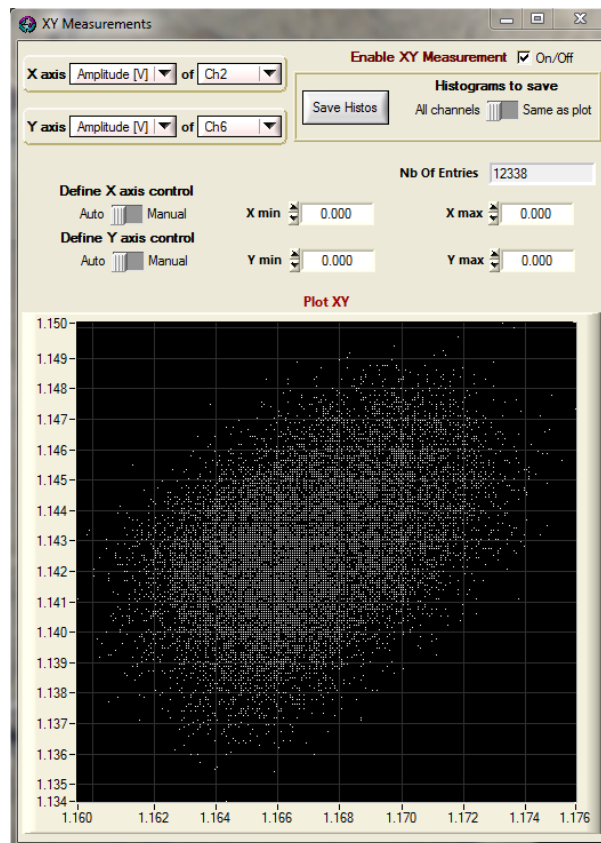

Figure 5.22: XY Measurements window
- **XY Measurements:** by clicking on this item, the user opens an eponym window (see **Figure 5.22**). In order to perform the measurement, the On/Off checkbox has to be checked.